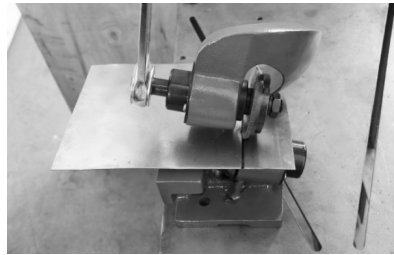

Figure 3
2. Apply moderate pressure to push the metal into the cutting dies #10 & #19 as you pull the handle #1 towards you (Figure 3).